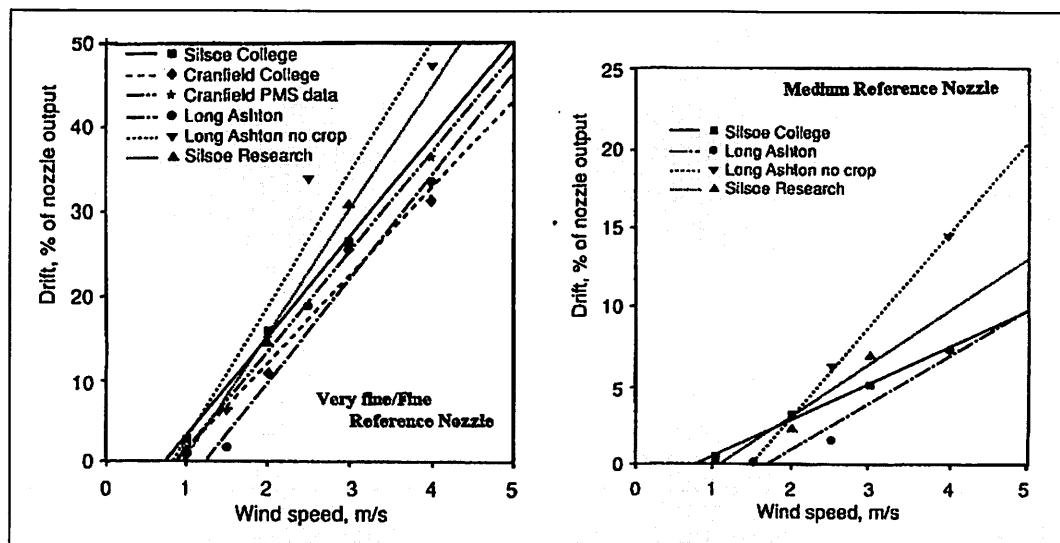

Fig 1. Measured drift — at left) very fine/fine reference nozzles; at right) medium reference nozzles.
- relatively good agreement between different wind tunnel conditions and sampling methods particularly at wind speeds of 2.0 - 2.5m/s (Fig 1);